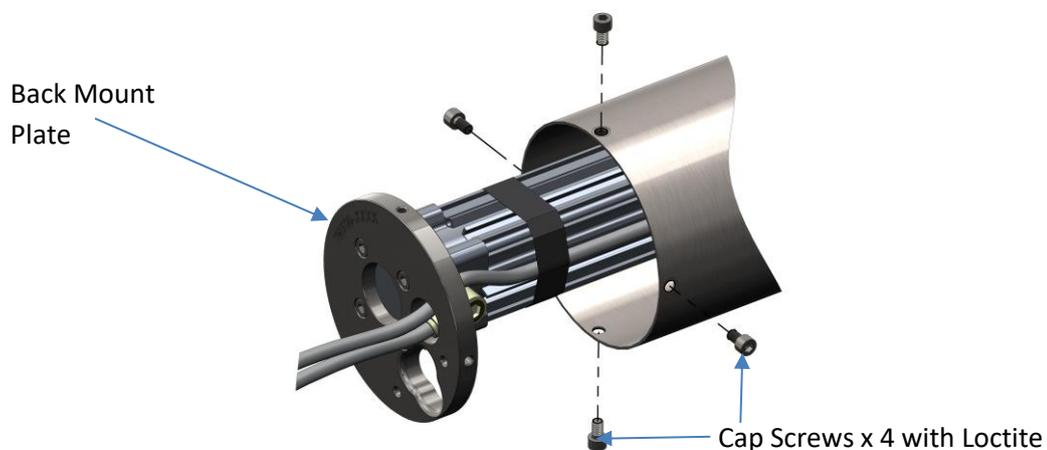

Figure 9
- At the rear of the Teatwand remove the 4 cap screws the secure the Back Mount Plate into the Outer Tube. See Figure 9
- Remove the Air Cylinder complete with Back Mount Plate from the Outer Tube. See Figure 9.